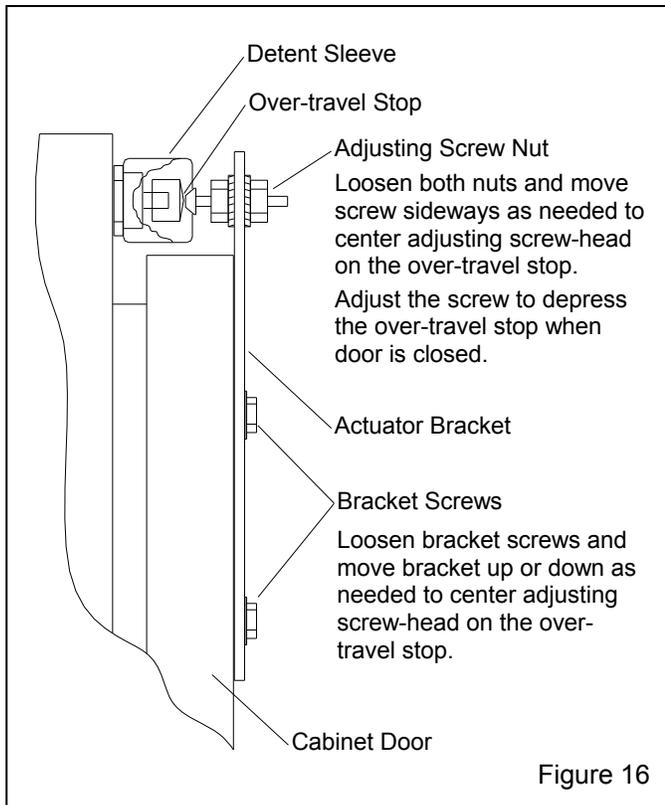

Figure 16
5.5 Door Interlocks, Figure 16